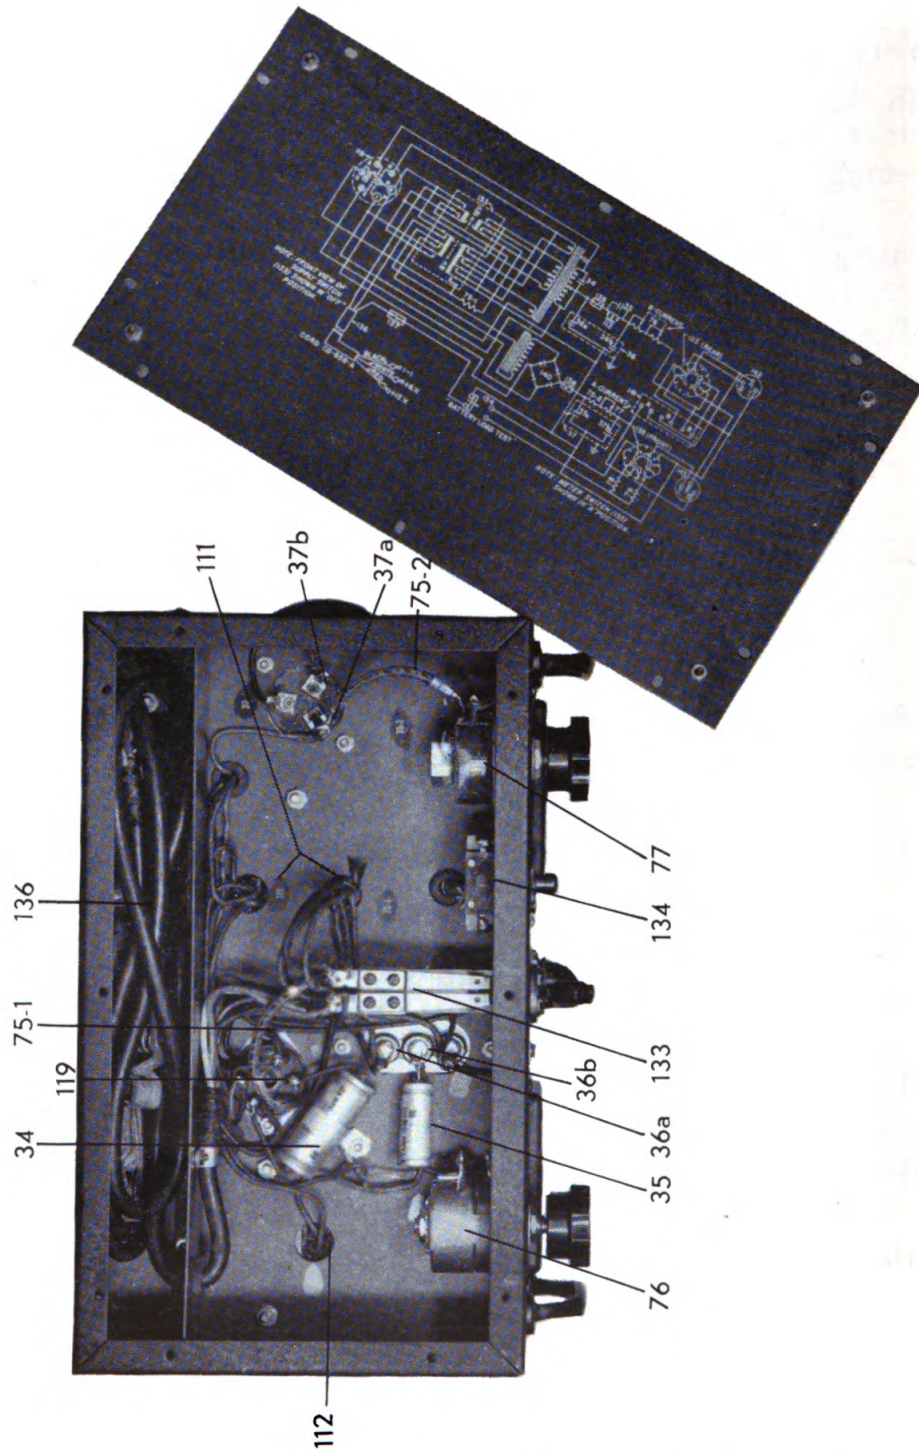

Figure 33. Battery Charger PE-128-A, Bottom View With Bottom Plate Removed
a. If you find trouble in the use of the charger, all the items in paragraph 23 should be thoroughly checked. If you can't fix the charger by using the remedies prescribed in this chart, the source of the trouble should be investigated through voltage and resistance measurements. Remove the ten screws holding the bottom plate of the charger so that the circuits are accessible. (See figure 33.)
b. The panel voltmeter (143) reading obtained when no batteries are in the circuit serves to indicate the presence of voltage in the "A" portion of the charger. If this voltage is low or entirely absent, an external voltmeter should be connected successively to the terminals of capacitor (37 a and b), and to the terminals of fuse (138). The presence or absence of voltage at these various points will indicate which circuit element is damaged. When there are no "B" batteries inserted in the charger, the panel voltmeter (143) does not indicate the charger voltage developed in the "B" portion. The voltage between the common negative of capacitor (36), and the terminals of fuse (139), and the terminals of control (76) should indicate the circuit element at fault. The normal voltage (with 6-volt supply) should be approximately 150 volts at the junction of the capacitor (36a) and fuse (139). If no load is connected, the same voltage will be measured at the terminals of control (76).
c. In the event that the voltage measured is abnormally low, capacitors (34, 36 a & b and 37 a & b) should be checked for breakdown. The resistance of the windings on transformer (111) are given